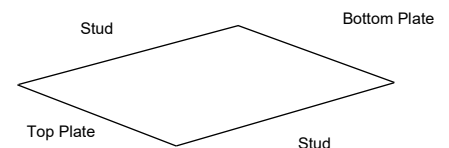
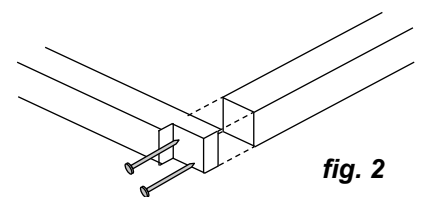

fig.1
fig. 2
- 1.2 Lay them out on a flat surface (**fig.1**) with the studs connecting the plates at the corners. The top and bottom plates should have the rebates at the ends **FACING OUT (fig.2)**
- 1.3 Nail together as shown using two 75mm nails per join (**fig. 2**).